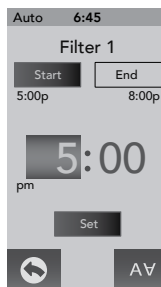

Figure 12.3c
A. To change the default cycle (Figure 12.3c):